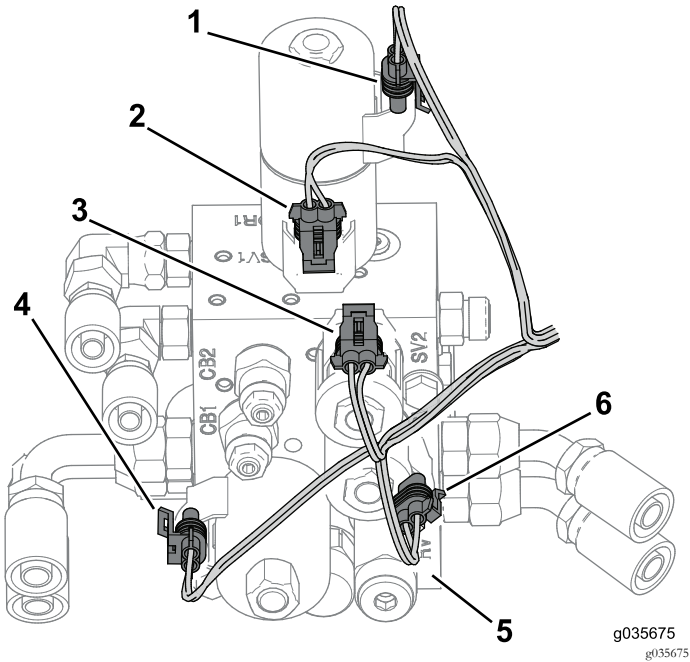

Figure 22
4. Connect the wire harness to the hydraulic manifold (Figure 22).